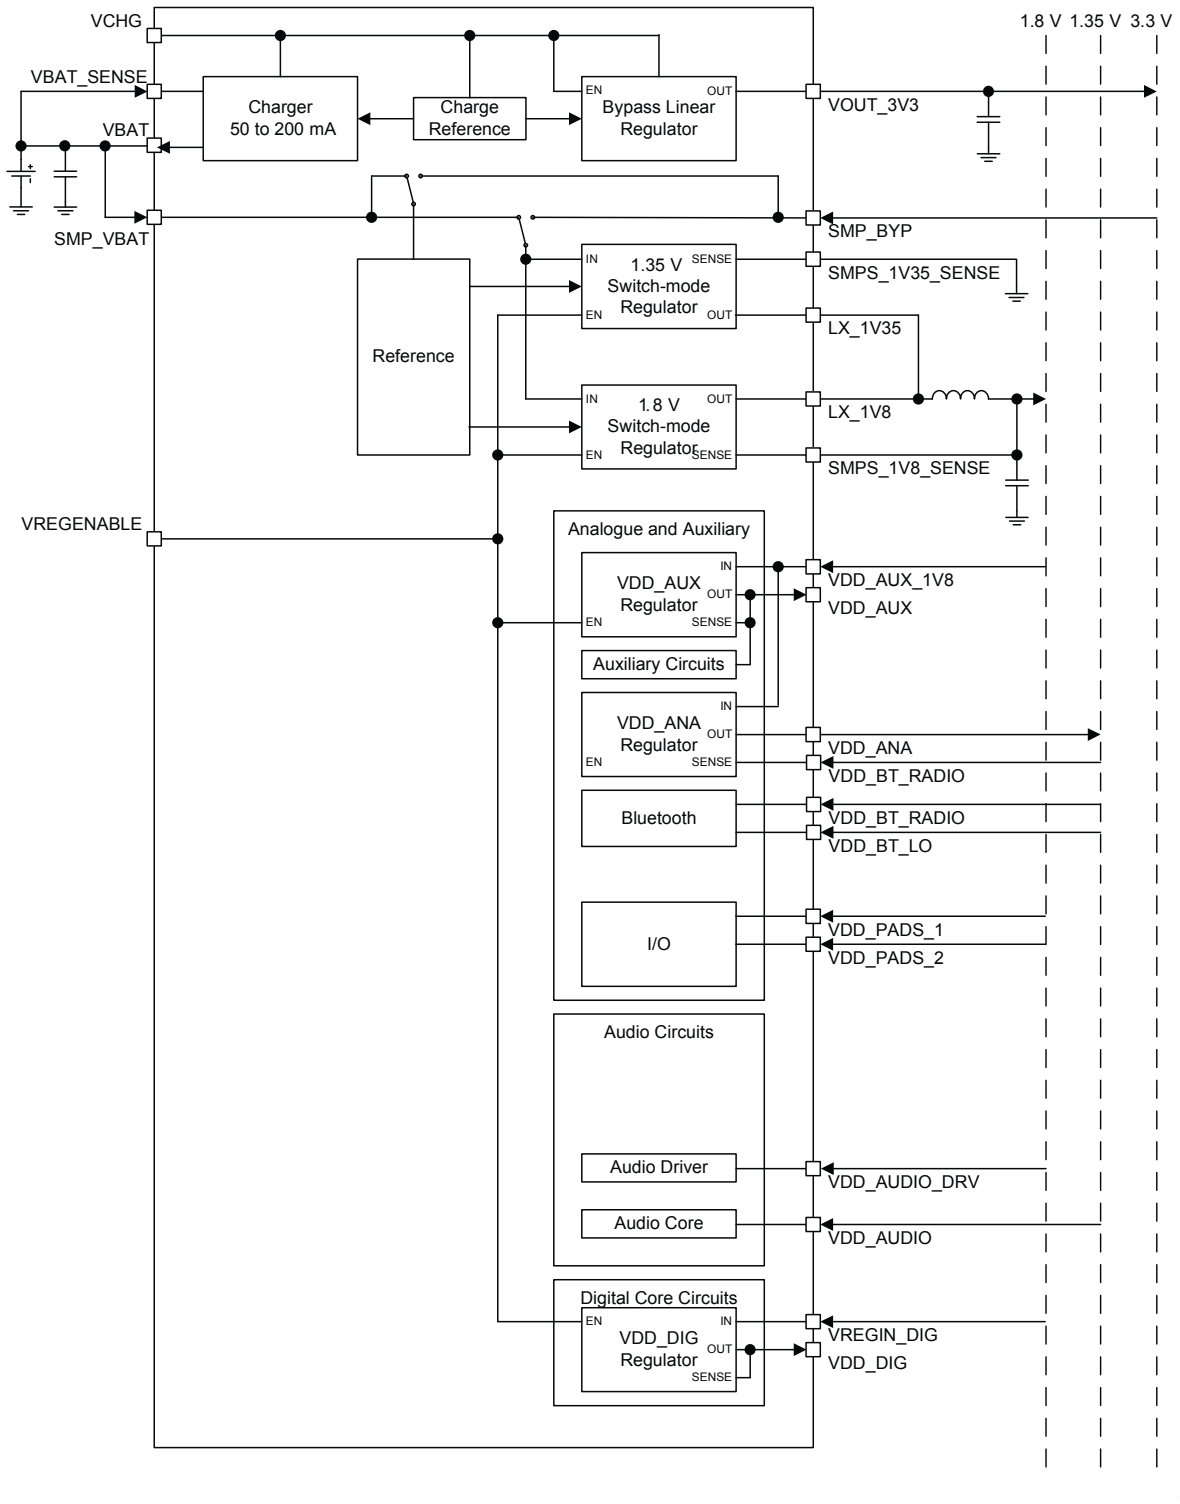

Figure 9.2: 1.80 V Parallel-supply Switch-mode System Configuration
- A 1.80 V parallel-supply rail system for higher currents using the 1.80 V and 1.35 V switch-mode regulators with combined outputs, see Figure 9.2.